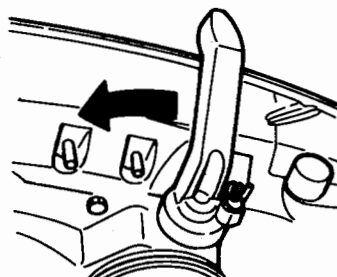

Fig. 12-1 Setting the shift lever at the REVERSE position
- 2) Take care that the spring pin ($3\phi \times 10\text{mm}$) for connecting the clutch cam with the cam rod does not fly out from the circumference of the clutch cam. (Fig. 12-1)
(Fig. 12-1) Clutch cam